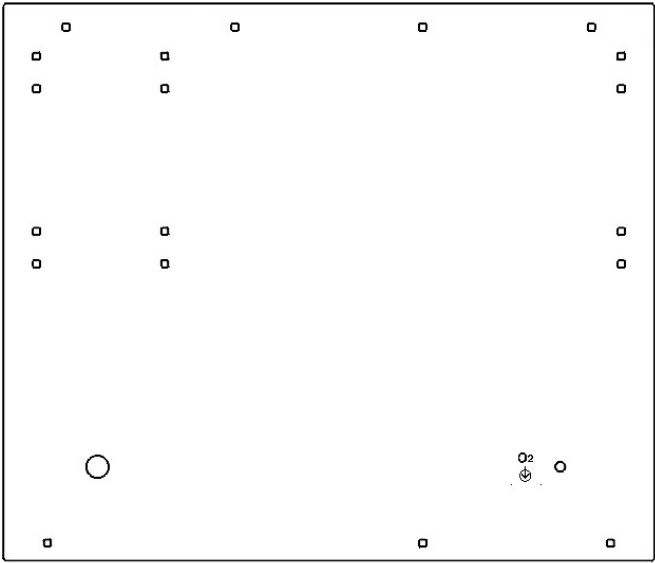

Figure 23: Placement of sticker on Back Plate
2. Place sticker H56 on the back plate of assembly HA7 as shown in figure 23.